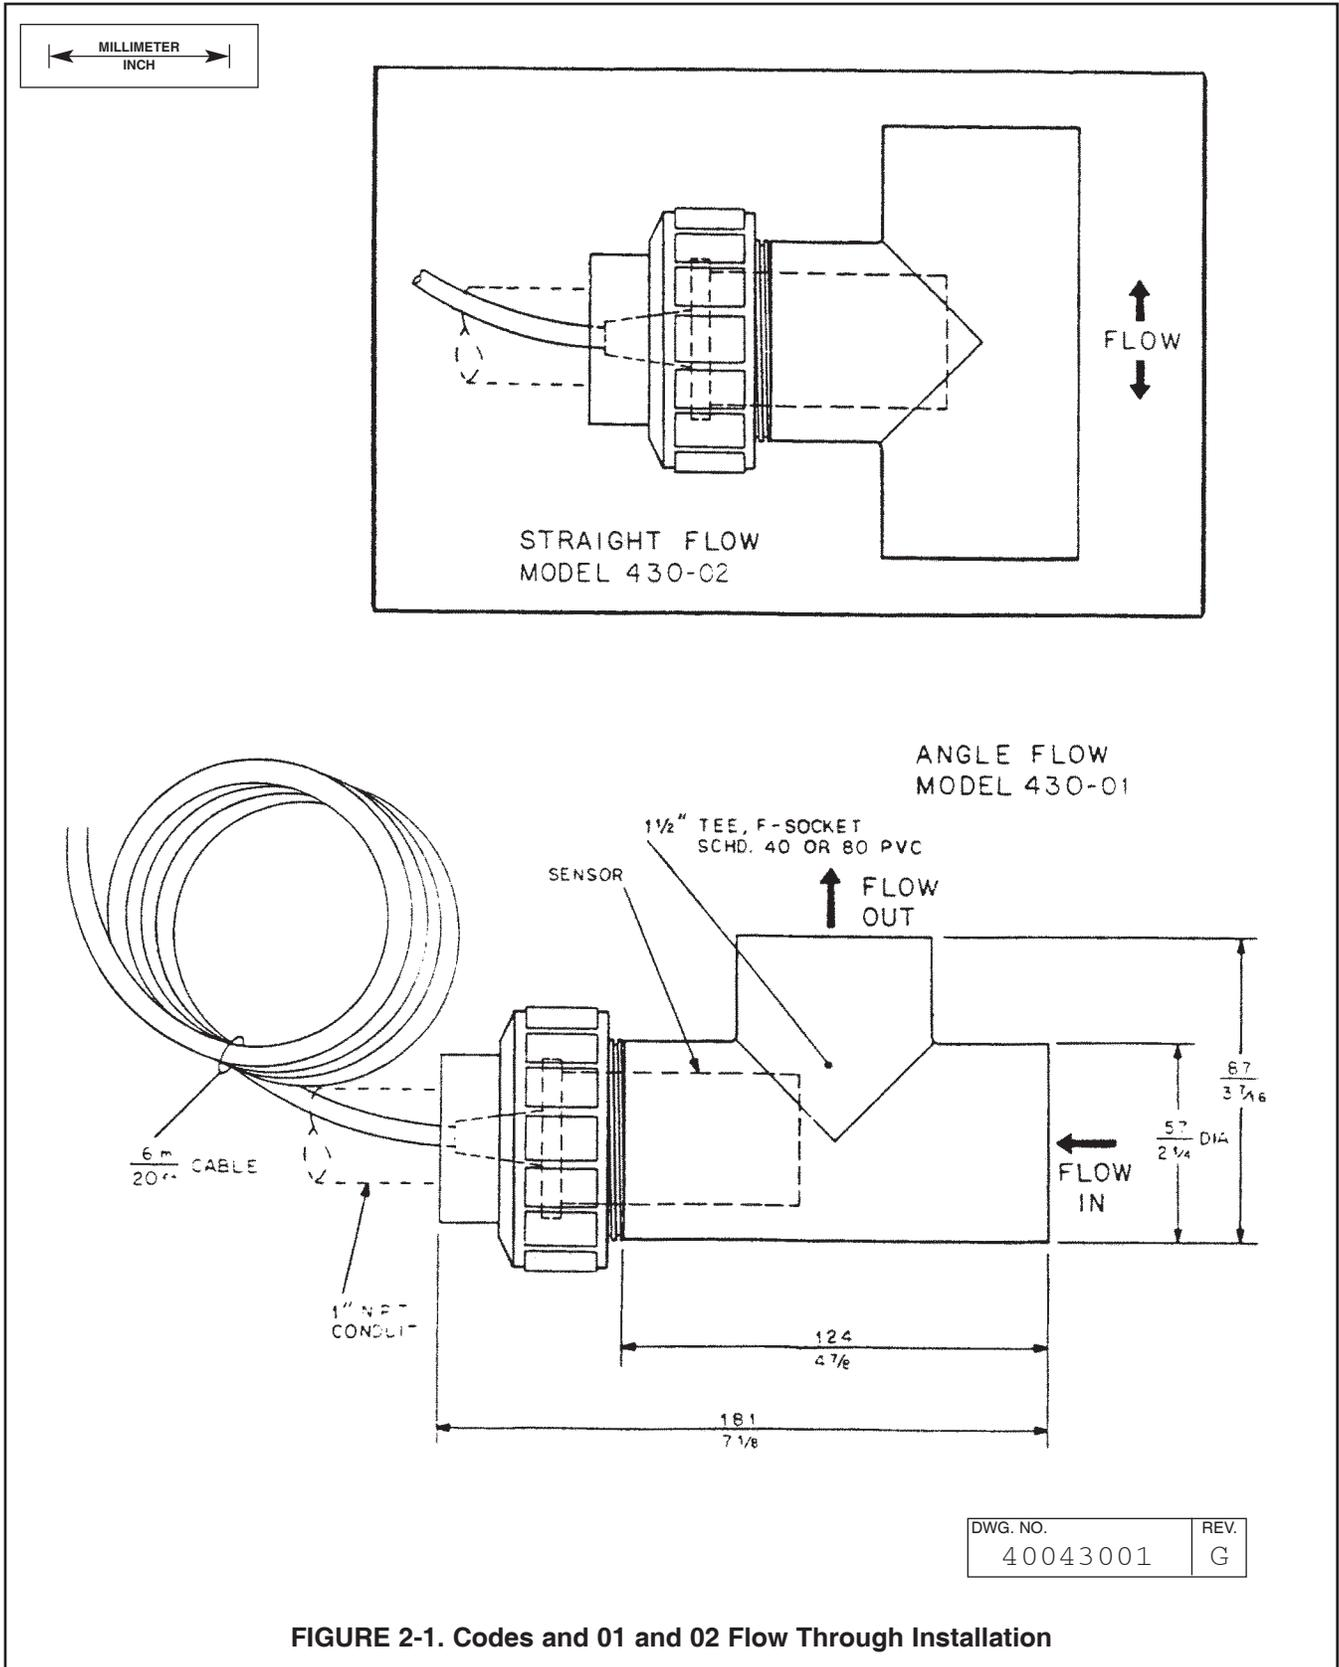

FIGURE 2-1. Codes and 01 and 02 Flow Through Installation
2.3.1 Codes 01 and 02 (see Figure 2-1). These configurations are for flow through measurements. Install the tee using 1-1/2 inch PVC. For the angle flow (Code 01), make sure the flow enters at the opening opposite the sensor, so that the sample flows directly into the membrane.